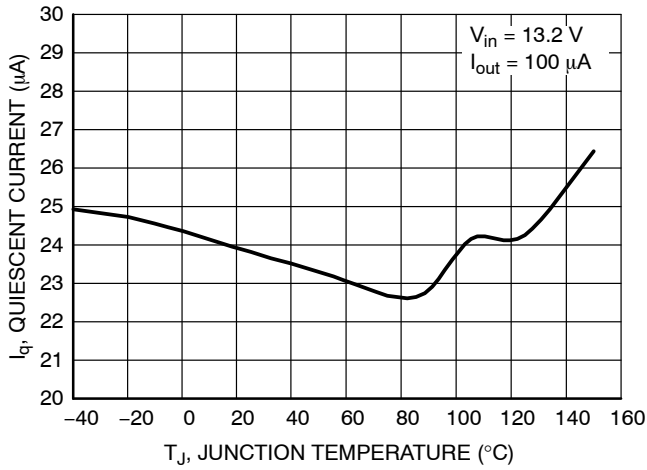
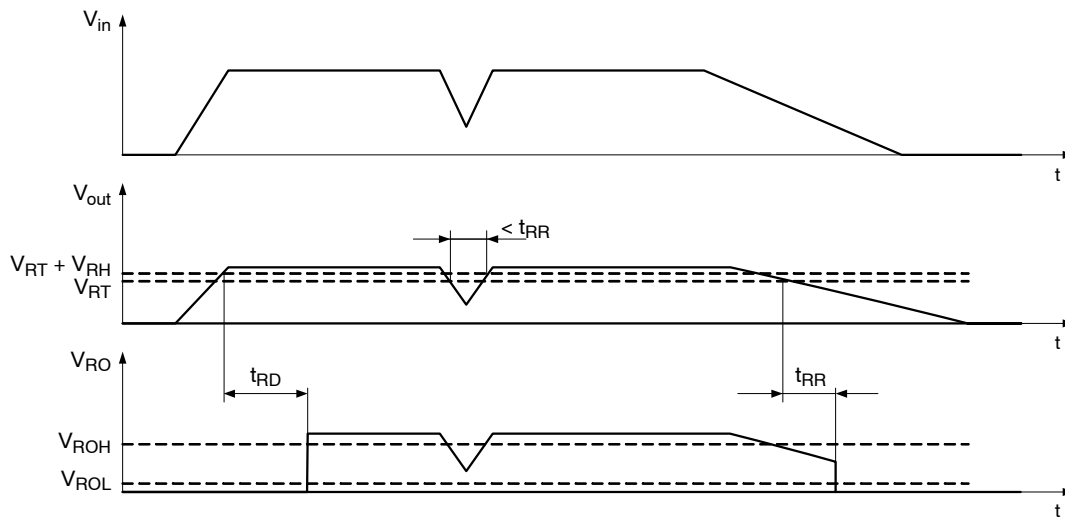

Figure 4. Quiescent Current vs. Temperature
Figure 33. Reset Function and Timing Diagram
The NCV8772 regulator is self-protected with internal thermal shutdown and internal current limit. Typical characteristics are shown in Figure 4 to Figure 33.
A reset signal is provided on the Reset Output (RO) pin to provide feedback to the microprocessor of an out of regulation condition. The timing diagram of reset function is shown in Figure 33. This is in the form of a logic signal on RO. Output voltage conditions below the RESET threshold cause RO to go low. The RO integrity is maintained down to Vout = 1.0 V. For 5 V voltage option, the Reset Output (RO) circuitry includes internal pull-up (30 kΩ) connected to the output (Vout) No external pull-up is necessary.